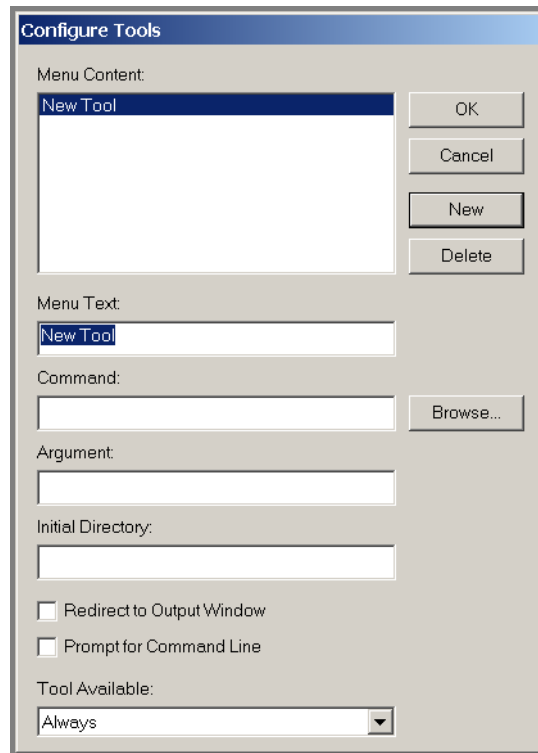

Figure 7.3. Configure Tools Dialog After Selecting New
2. Click the “New” button. The dialog box shown in Figure 7.3 will appear.